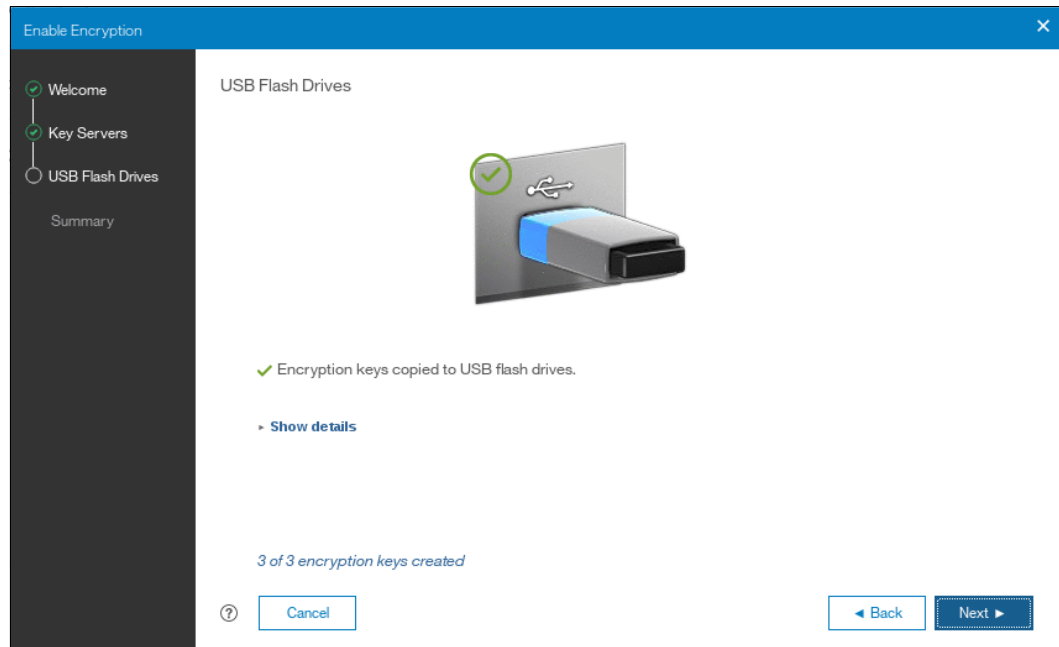

Figure 7-30 Writing the master access key to USB flash drives
4. After the minimum required number of drives is detected, the encryption keys are automatically copied on the USB flash drives, as shown in Figure 7-30.